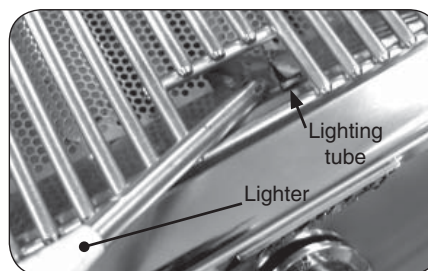

Fig. 17-2 - Manual lighting
2. Insert either a burning long-barrel butane lighter or a burning long-stem match through the cooking grid opening to the top of the lighting tube. (Fig. 17-2). For backburners, hold the flame against the surface of the backburner.
4. If the burner does not light, **immediately depress the knob and turn the valve to OFF**. **WAIT FIVE (5) MINUTES** before repeating steps 2 through 4 of the MANUAL LIGHTING instructions.